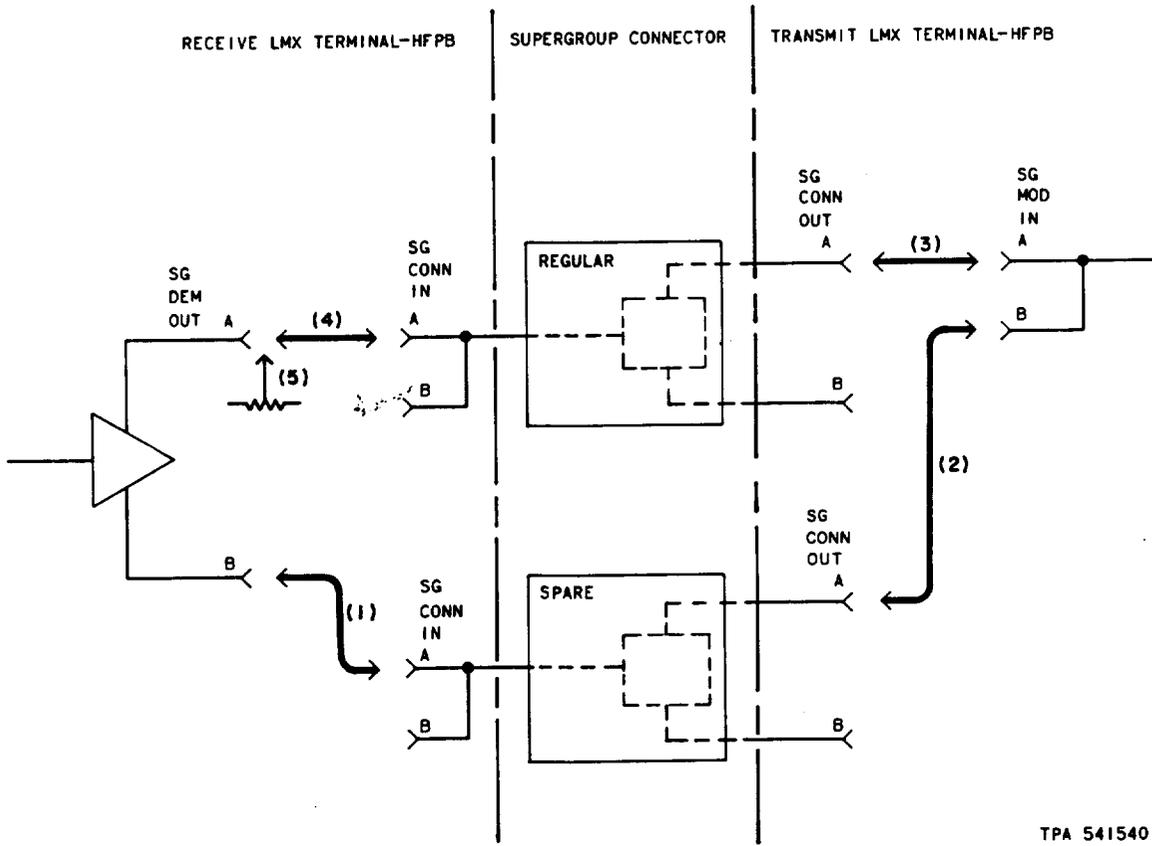

Fig. 2—Removing Regular Supergroup Connector From Service—Patching Procedure
5	<p>At the receiving high-frequency patch bay (HFPB), connect the regular SG DEM OUT B jack to the spare SG CONN IN A jack [patch (1), Fig. 2].</p>
6	<p>At the transmitting HFPB,</p> <p>(a) Verify message continuity at the SG CONN OUT A jack of the spare connector.</p> <p>Note: The supergroup pilot may be used for continuity check.</p> <p>(b) Connect the spare SG CONN OUT A jack to the regular SG MOD IN B jack [patch (2), Fig. 2].</p> <p>Requirement: Approximately a 3-dB increase in power at the monitoring point</p> <p>(c) Remove the patch from the regular SG CONN OUT A and SG MOD IN A jacks [patch (3), Fig. 2].</p> <p>Requirement: Normal power indication for the monitoring point</p>
7	<p>At the receiving HFPB,</p> <p>(a) Remove the patch from the regular SG DEM OUT A and the regular SG CONN IN A jacks [patch (4), Fig. 2].</p> <p>(b) Terminate the regular SG DEM OUT A jack into 75 ohms [patch (5), Fig. 2].</p>